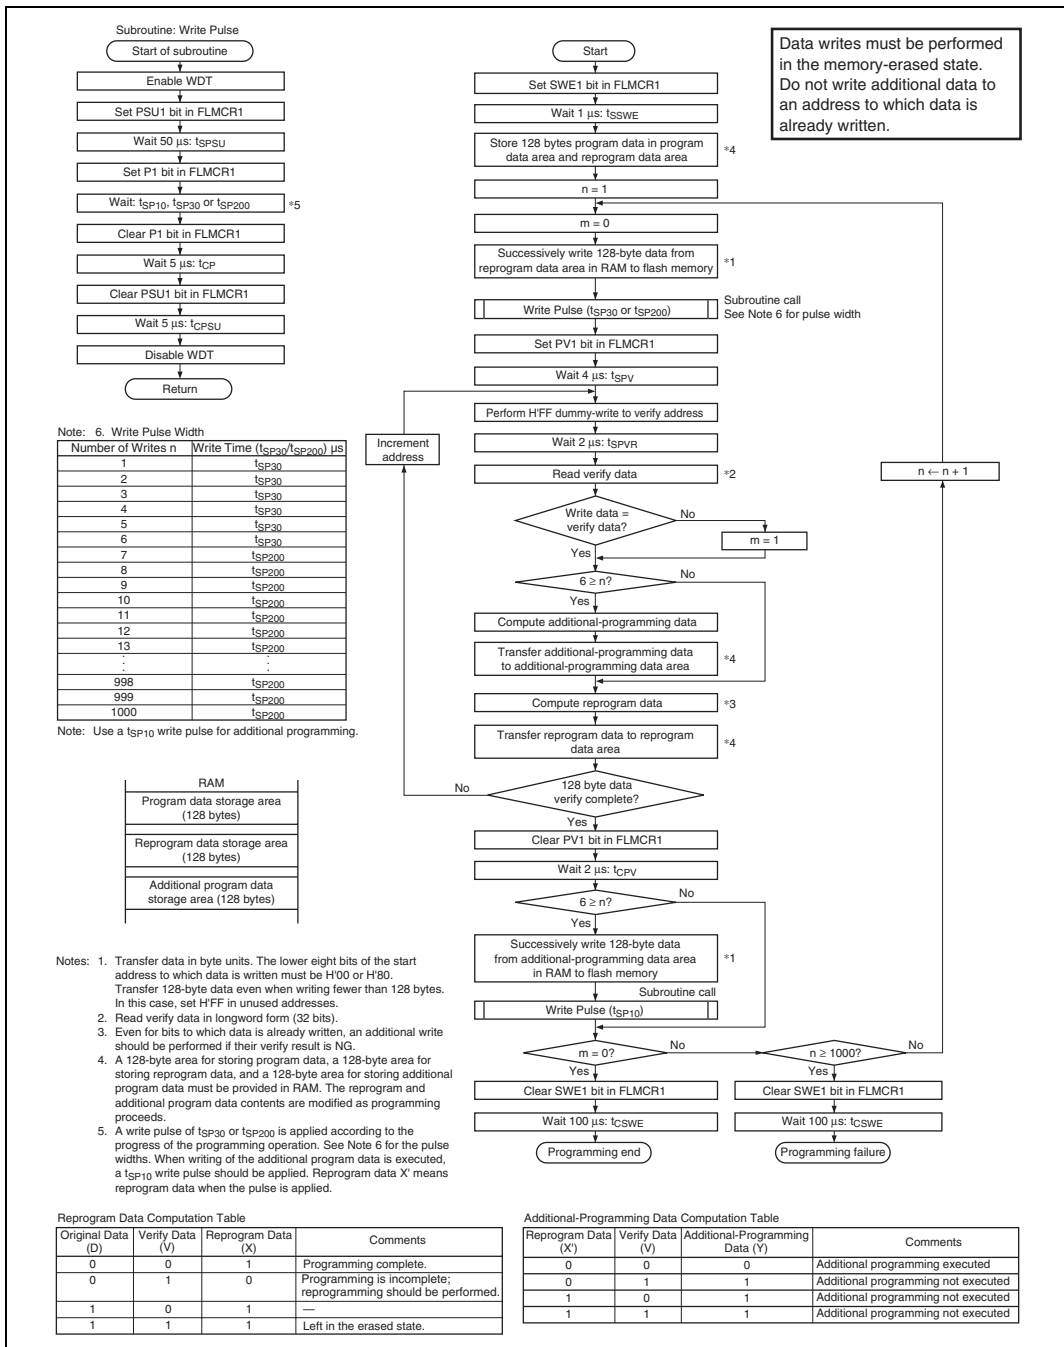

Figure 15.14 Program/Program-Verify Flowchart
After the elapse of a given programming time, the programming mode is exited (the P1 bit in FLMCR1 is cleared, then the PSU1 bit is cleared at least t_{cp} μs later). The watchdog timer is cleared after the elapse of t_{cpsu} μs or more, and the operating mode is switched to program-verify mode by setting the PV1 bit in FLMCR1. Before reading in program-verify mode, a dummy write of H'FF data should be made to the addresses to be read. The dummy write should be executed after the elapse of t_{spv} μs or more. When the flash memory is read in this state (verify data is read in 16-bit units), the data at the latched address is read. Wait at least t_{spvr} μs after the dummy write before performing this read operation. Next, the originally written data is compared with the verify data, and reprogram data is computed (see figure 15.14) and transferred to the reprogram data area. After 128 bytes of data have been verified, exit program-verify mode, wait for at least t_{cpv} μs , then clear the SWE1 bit in FLMCR1 to 0. If reprogramming is necessary, set program mode again, and repeat the program/program-verify sequence as before. However, ensure that the program/program-verify sequence is not repeated more than (N) times on the same bits.